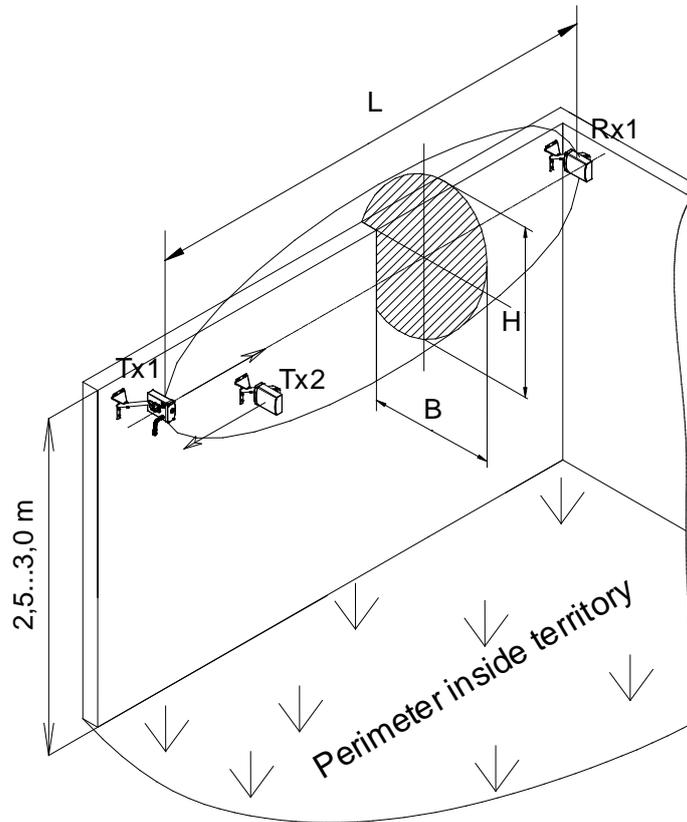

Figure 1.3 – The shape of the detection zone generated by the sensors BARRIER-24.M50, BARRIER-24.M100, BARRIER-24.M200 installed on the fence
1.2.3 The shape of the detection zone generated by the sensors BARRIER-24.M50, BARRIER-24.M100, BARRIER-24.M200 installed on the fence, maximum operational range of the sensors, maximum width of the sensors detection zone, maximum height of the sensors detection zone are given in Figure 1.3 and Table 1.4.